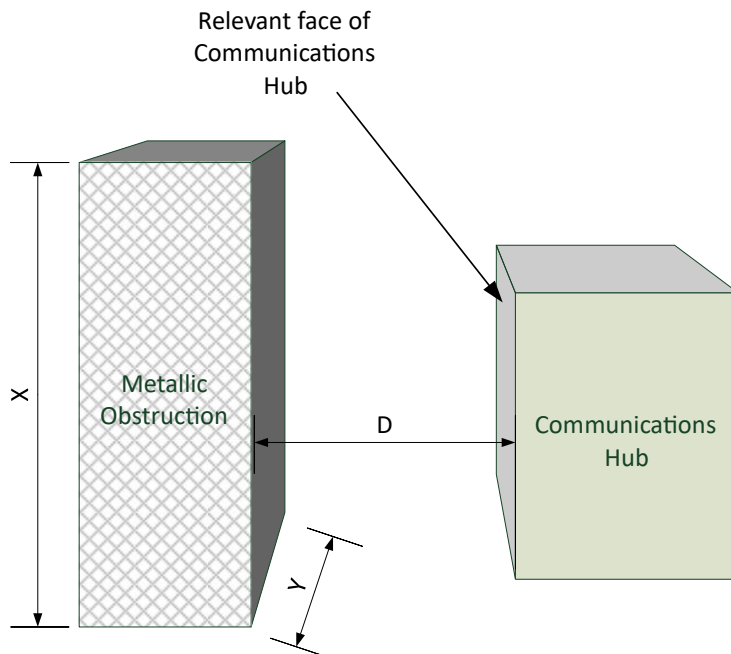

Figure 1: Metallic Obstruction
4.1.2. With the measurements as illustrated in Figure 1, Significant Metallic Obstruction means: